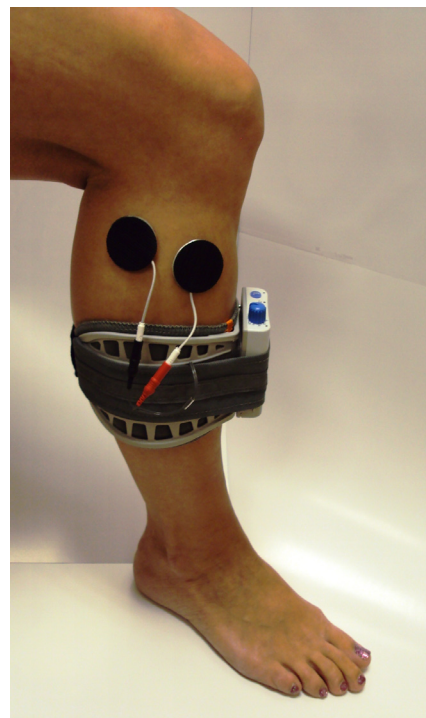

Figure 26: Placement of electrodes, cuff and WalkAide for initial testing
- Moisten the electrode with recommended medium. Place the back electrode over the mark identified during the testing procedure with the peripheral nerve stimulator and the front electrode on the upper 1/3 of the tibialis anterior muscle belly. (Figure 26)
- Connect the electrodes to the WalkAide electrode lead cable. Make sure the BLACK lead (negative) is connected to the BACK electrode and the RED lead (positive) is connected to the FRONT electrode. (Figure 26)